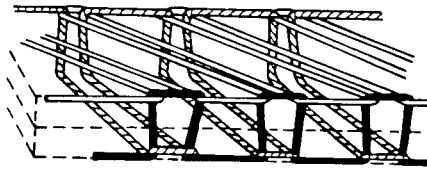

Fig. 11
13. TO ADJUST THREAD TENSIONS (See Figs. 11–13)
When the thread tensions are correctly adjusted, a stitch formation as shown in Fig. 11 can be obtained.